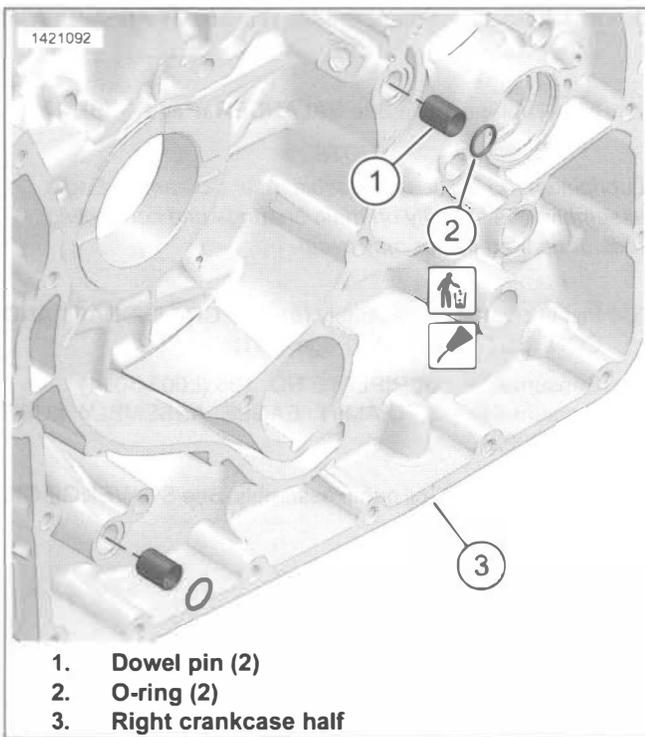
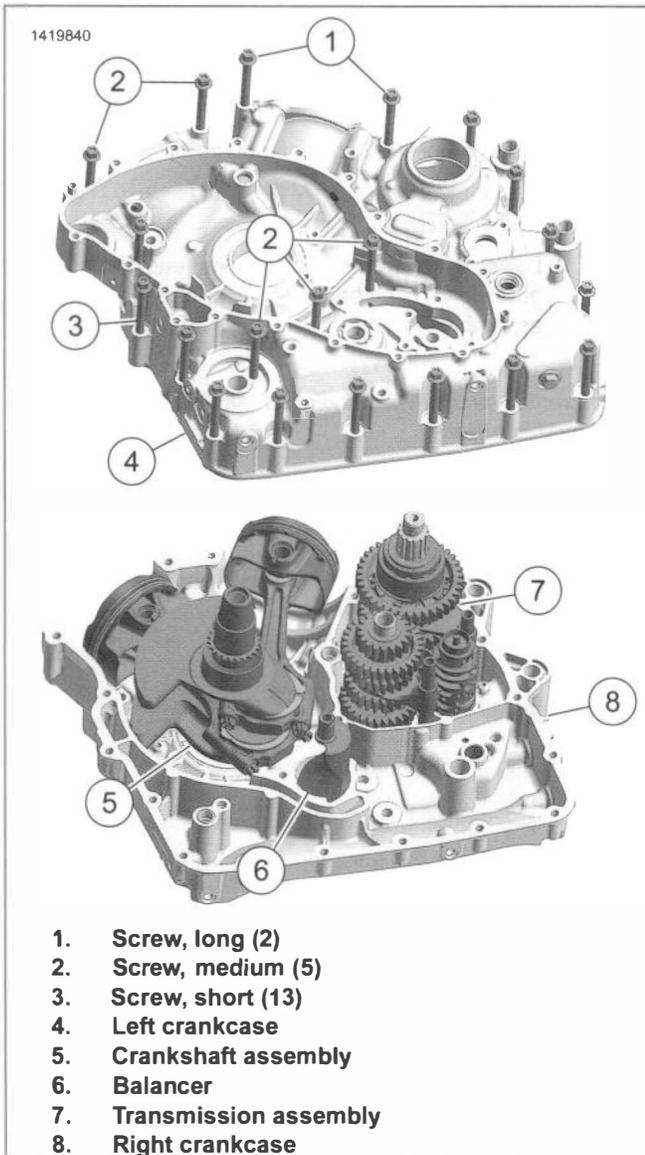

Figure 4-87. Dowel Pins
Figure 4-88. Separate Crankcase Halves
1. See Figure 4-88. Separate crankcase halves.
- d. Lift left crankcase half (4) off end of crankshaft assembly (5), balancer (6) and transmission assembly (7).
2. Remove crankshaft assembly (5). See CRANKSHAFT AND CONNECTING RODS (Page 4-81).
3. Remove balancer (6). See BALANCER (Page 4-79).
4. Remove transmission assembly (7). See TRANSMISSION (Page 5-20).
6. See Figure 4-87. Remove and discard O-rings (2) from right crankcase half (3) dowel pins (1).
1. See Figure 4-87. Install dowel pins into right case half, if removed.
- a. Install dowel pins (1).
- b. Lubricate O-ring (2) with clean engine oil and install.
2. See Figure 4-88. Position right crankcase (8) with clutch compartment facing down.
3. Install transmission assembly (7). See TRANSMISSION (Page 5-20).
4. Install balancer (6). See BALANCER (Page 4-79).